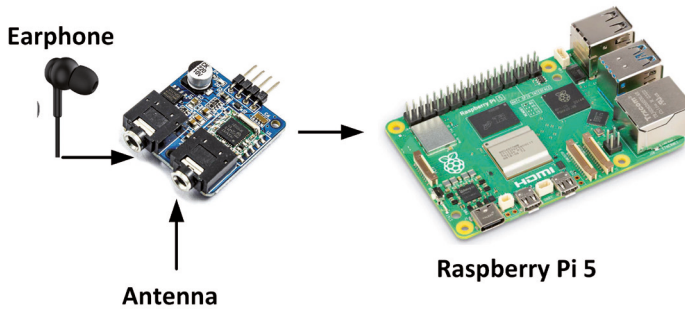

Figure 4.72: Block diagram of the project.
**Block diagram:** Figure 4.72 shows the project block diagram, An earphone is connected to the output of the TEA5767 module.